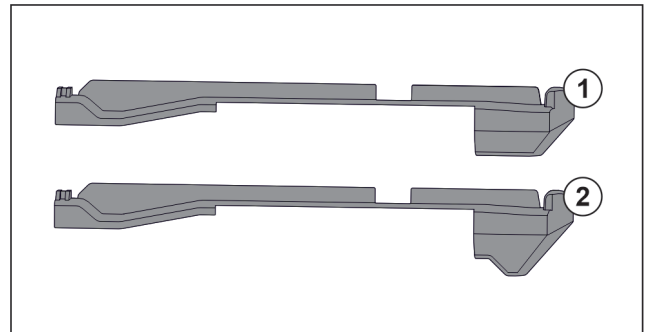

Fig. 128 Comparing attachments
There are two different attachments in the appliance. The attachment above the lowest drawer Fig. 128 (2) has a three-cornered edge. All other attachments Fig. 128 (1) have a straight edge.
- ▶ Fit attachment Fig. 128 (2) with the three-cornered edge above the lowest drawer.
- ▶ Fit attachment *Fig. 128 (1)* with straight edge in all other positions.